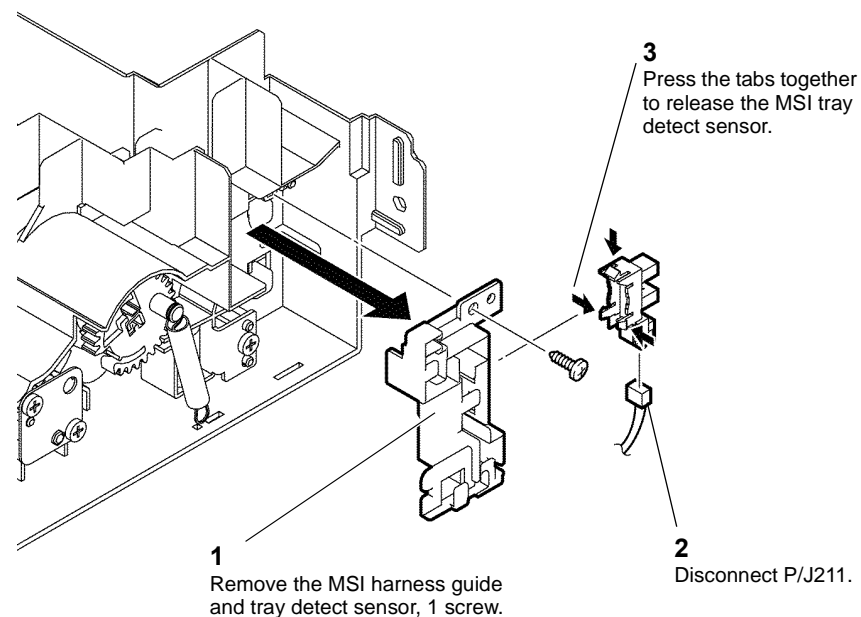

Figure 1 MSI tray detect sensor
2. Remove the MSI tray detect sensor, Figure 1.